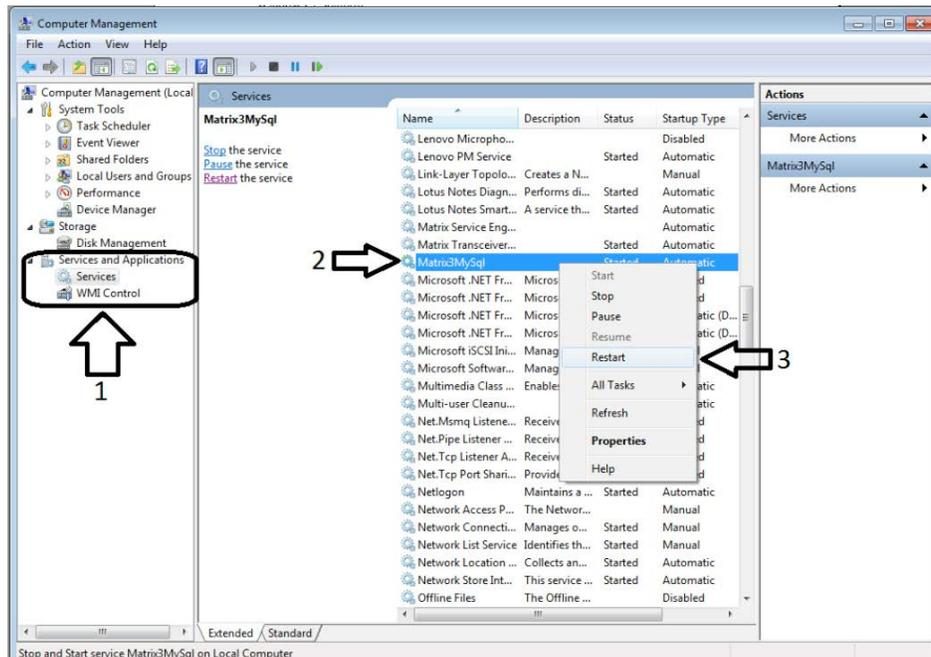

FIG. 249
- c. (Refer to FIG. 249) On the left hand side, expand Services and Applications (1), and click on Services. In the list to the right locate Matrix3MySQL (2) and right click on it. Select the restart option (3) from the pop up menu.